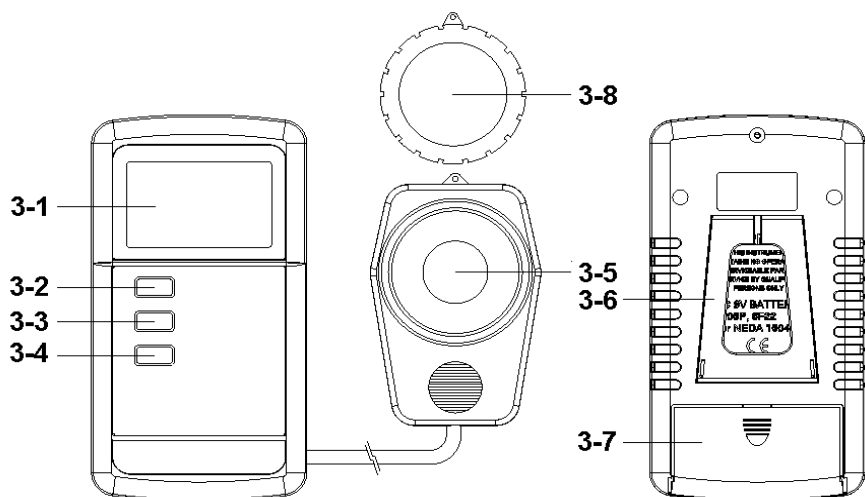

Fig. 1
- 2) Power on the meter by pressing the " Power button " (3-2, Fig. 1) once.
** During the power on , if press the " Power button " (3-2, Fig. 1) once again will off the meter.*
- 3) Position the " Light Sensor " (3-5, Fig. 1) directly under the light source.
If press the " UNIT button " (3-3, Fig. 1) > 2 seconds will change the the measurement unit from " LUX " to " Ft-cd " (or from the Ft-cd " to " LUX ") with default.
Cover the Light Sensor (3-5, Fig. 1) with " Light probe cover " (3-8, Fig. 1) completely, press the " ZERO button " (3-6, Fig. 1) once, the display will show zero value.
During the measurement, press the " HOLD button " (3-3, Fig. 1) once will hold the measured value & the LCD will display a " HOLD " symbol.
- 2) Open the " Battery Cover " (3-7, Fig. 1) away from the instrument and remove the battery.